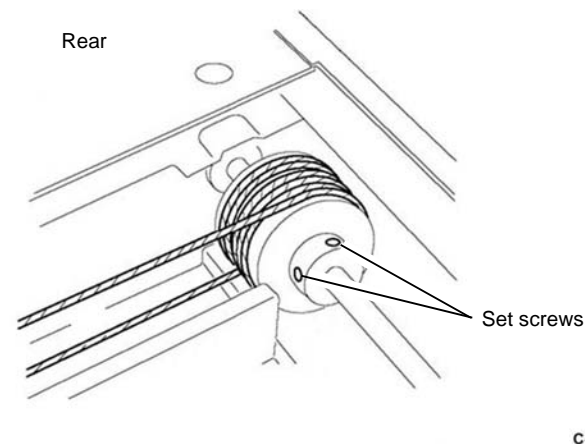

Figure 3 Rear set screws
5. Loosen the two set screws that secure the pulley at the rear, Figure 3.